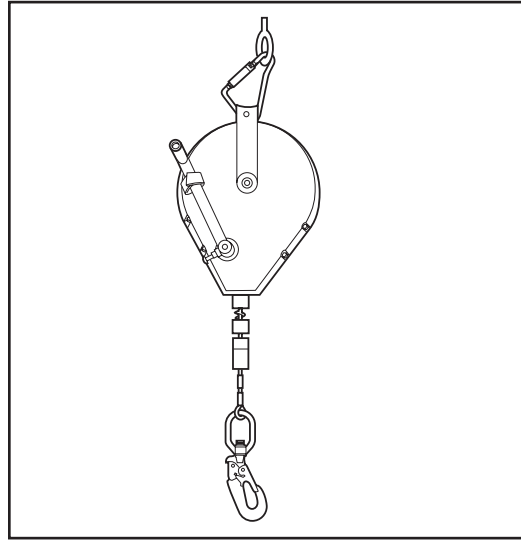

Fig. 1
5.3.1 Suspended Installation: (See Fig. 1.) A locking SM/RTC installation carabiner can be used to attach the SM/RTC 2756 unit to a suitable, overhead anchorage. See section 5.2 above. Make sure the carabiner is secure and closed completely.